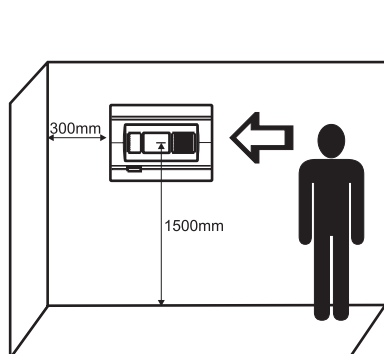

Figure 1
- The panel must be installed in a clean dry place and must not be subjected to impacts or vibrations (Figure 1). It must be situated far from heating appliances. The temperature must be within -5°C and $+40^{\circ}\text{C}$. The fire panel is not water-proof!